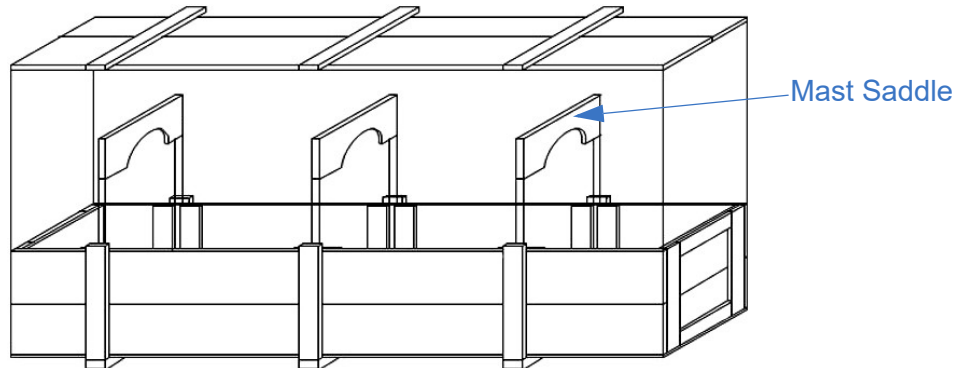

Figure 5-1 Shipping Crate
3. Remove all loose components, the 2 x 4 inch (38 x 89 mm) block at the top end of the mast, and the top half of the wooden mast saddles (Figure 5-1).